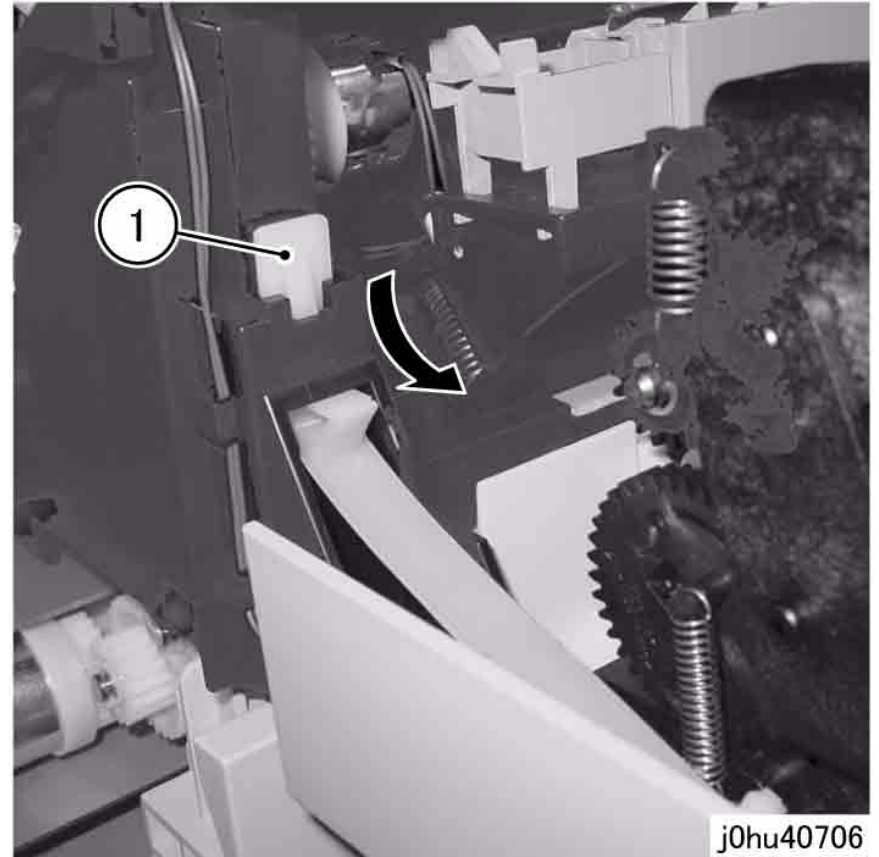

Figure 4 Remove Rear Stopper
6. Remove the Rear Stopper (Figure 4).